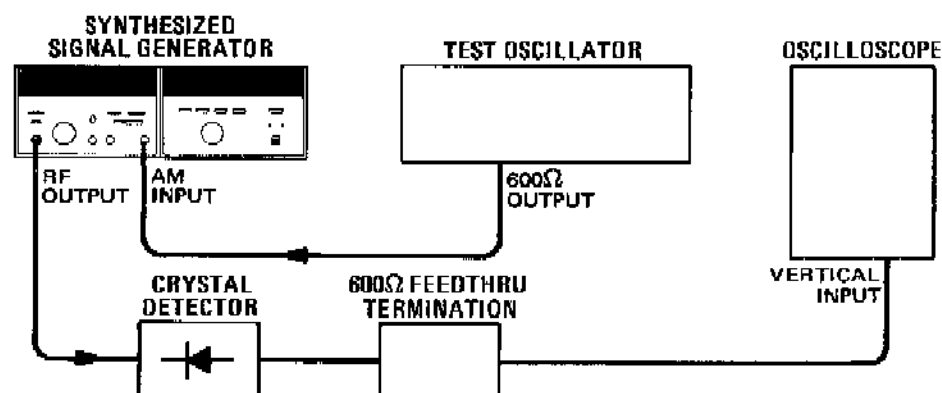

Figure 4-15. AM Rate Test Setup
1. Connect the equipment as shown in Figure 4-15.